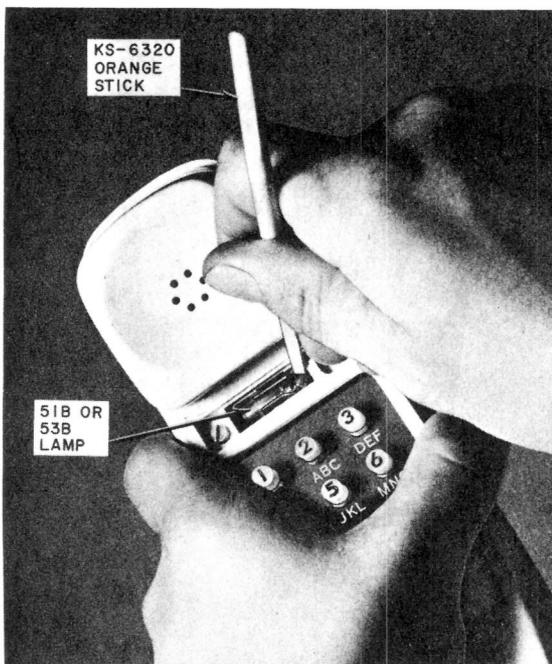
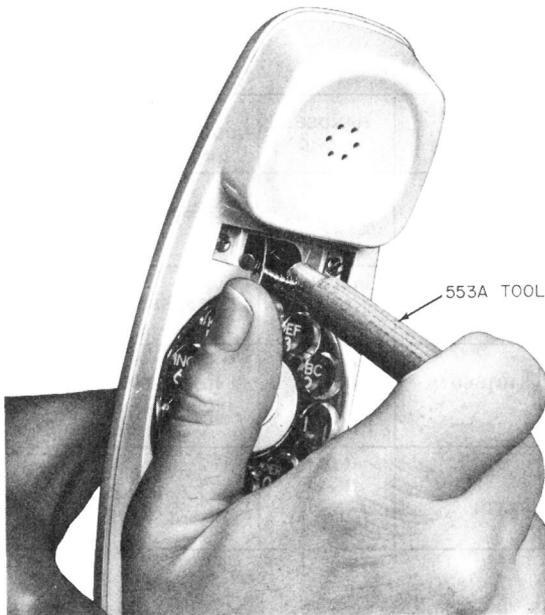

Fig. 17—Removing Dial Lamp From Current Production Hand Telephone Sets
Fig. 18—Removing Dial Lamp in Early Production Hand Telephone Sets
5.05 To replace a dial lamp in the TRIMLINE hand telephone set, remove cover or number card retainer, and light-seal plate. Current production hand telephone sets have the lamp in a horizontal position, and a KS-6320 orange stick can be used to remove the lamp (Fig. 17). ***Exercise caution to prevent the lamp from flying out of the socket in a dangerous manner.*** In early production hand telephone sets use a 553A tool to remove the lamp from its vertical position (Fig. 18).